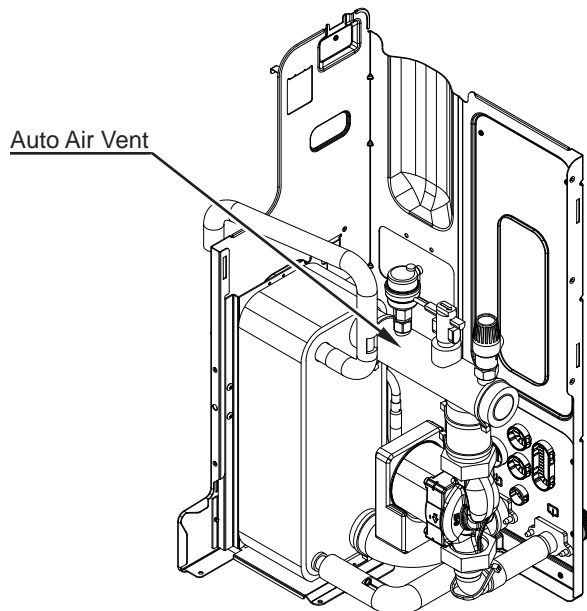

Figure 51. Auto Air Vent Dust Cap
2. Open automatic air vent dust cap. Refer to *Figure 51*.
⚠ WARNING: The outdoor unit is supplied with the automatic air vent closed. To allow for proper air venting the dust cap must be opened as shown in *Figure 51*.